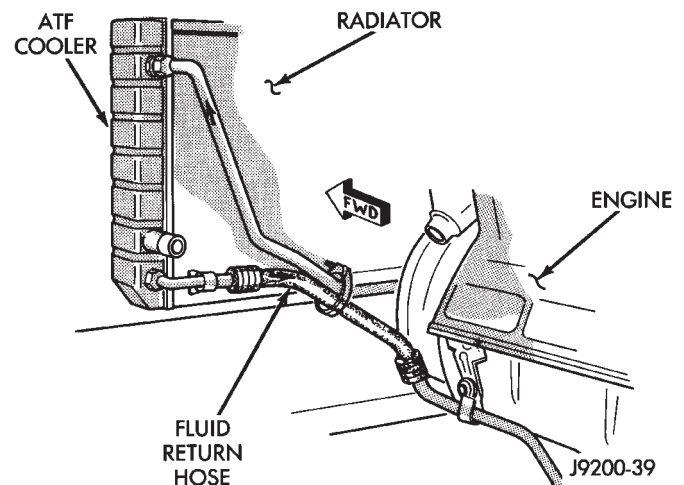

Fig. 14 ATF Cooler Hoses —XJ Vehicles
(3) Inspect the rubber hose routing to ensure that the hoses do not contact any heat source, moving component, etc., that could potentially cause heat or mechanical damage (Figs. 14, 15, and 16).
(4) Inspect all the hose connections to ensure that they are secure and that there is no fluid leakage. In